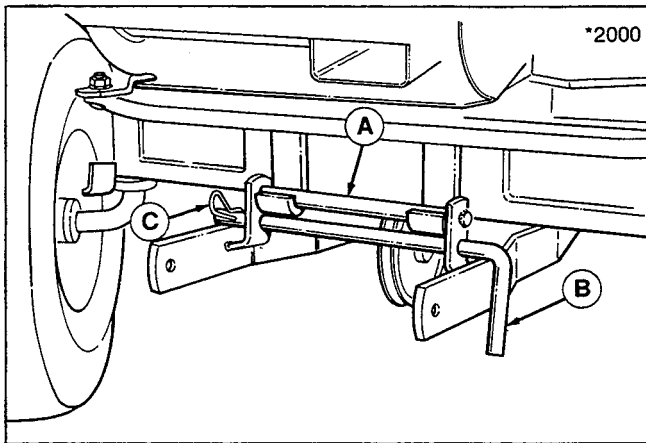

Figure 1. Install Front Hitch
3. Turn the wheels fully left and install the front hitch bar (A, figure 1) onto tractor brackets. Secure with long hitch pin (B) and safety clip (C).